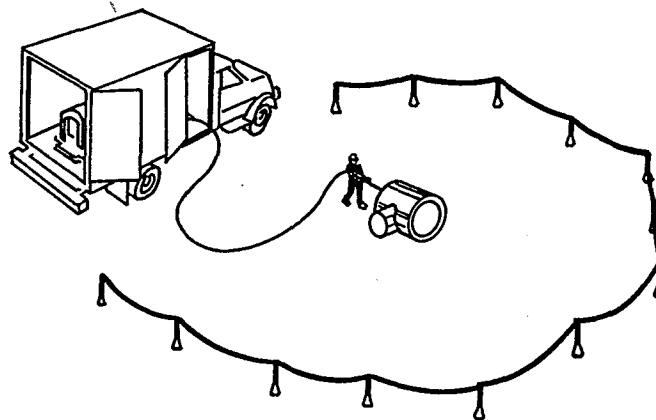

Figure 18. Open Barriers
8.6.1 **Warning Barriers** - Suitable barriers **shall** be erected to restrict access to the hazard area and signs **shall** be posted to warn personnel that they are entering a hazardous area. The barriers should be outside the effective range of the jet, wherever possible. Barriers may be of rope, safety tape, barrels, etc., as long as they give an effective warning and are highly visible. The minimum recommended barrier **shall** be an approved form of hazard warning, which may be either a rope or a tape stretched above ground level (Figures 18 and 19).